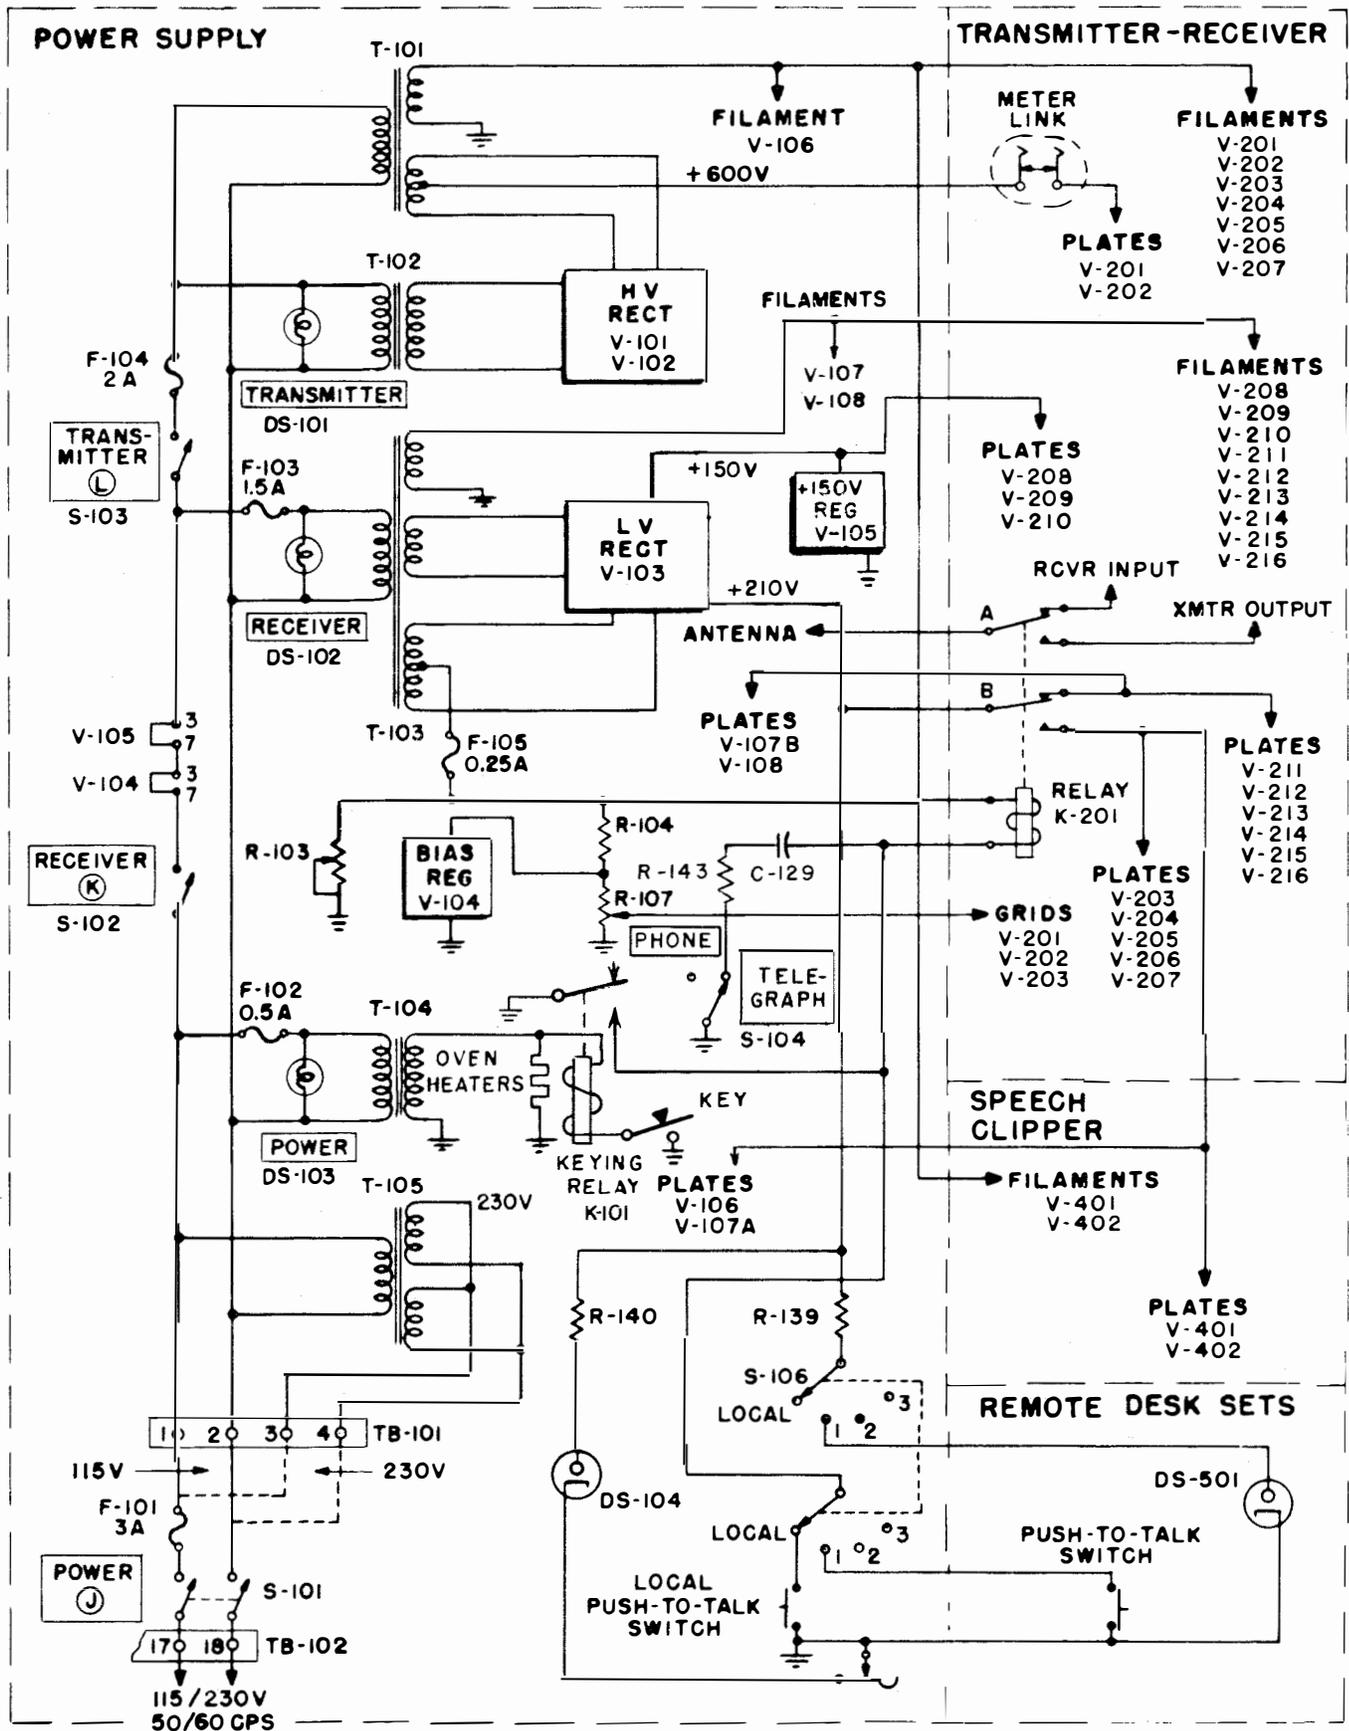

Figure 6. Power and Control Circuits
a. When the input power is at 230 volts, it is applied through step-down transformer T105. 115 volts is applied directly to the power supply circuit without the use of T105. Refer to figure 6.